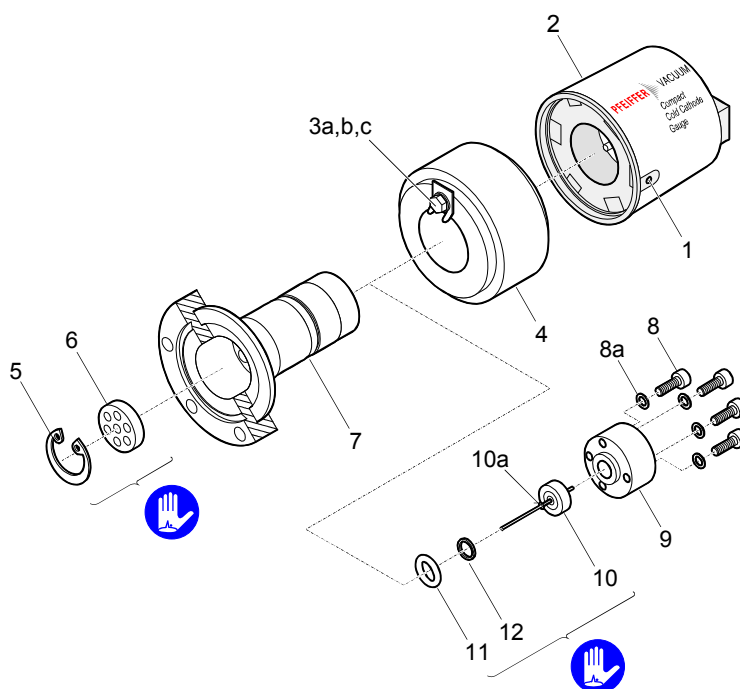

Figure 3
- ❶ Remove the gauge from the vacuum system (→ 18).
- ❷ Unfasten the hexagon socket set screw (1) on the side of the electronics unit (2) (→ Figure 3).
- ❸ Remove the electronics unit.
- Remove the old ignition aid (10a) with tweezers (→ Figure 3).
- Insert the FPM seal (11) with the support ring (12) centered into the measuring chamber. The sealing surface, seal, and ceramic part must be clean (→ Figure 3).
- Carefully insert the anode (10) incl. ignition aid (10a) into the measuring chamber.
- Carefully place the pressure piece (9) on the measuring chamber and tighten it **uniformly** with the four (or two) hexagon socket screws (8) incl. lock washers (8a) until the stop position is reached.
- 6 Slide the polarity insert (6) into the measuring chamber up to the mechanical stop.
- 7 Place the circlip (5) snugly fitting on the polarity insert.